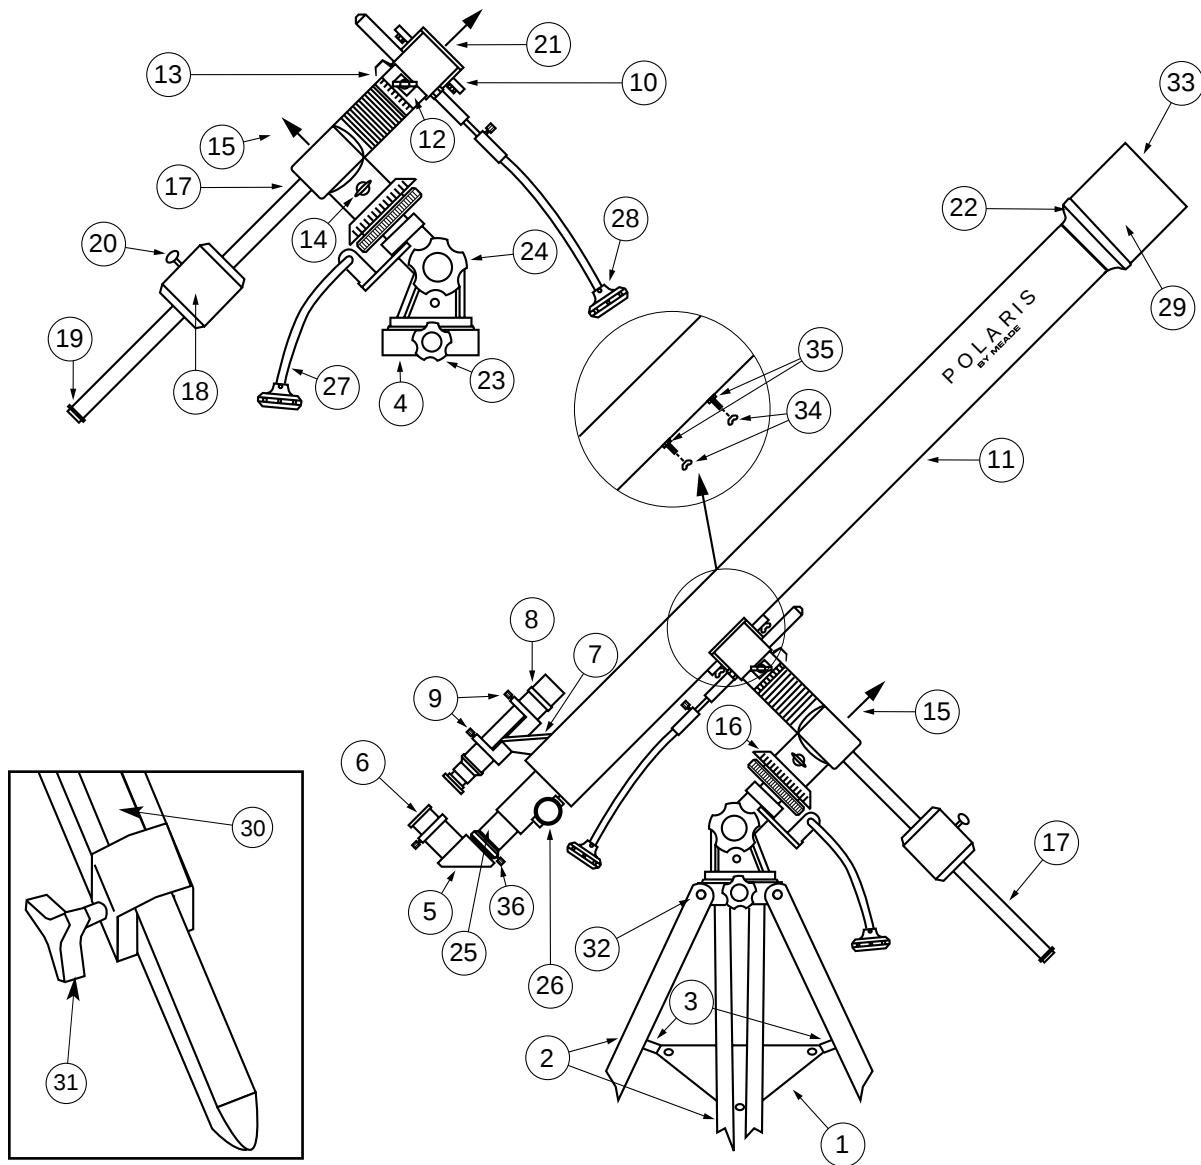

Figure 1: Polaris 60EQ-D 2.4\"
UNPACKING AND ASSEMBLY (Numbers in brackets below refer to Fig. 1)
2. Attach the 3 aluminum tripod legs (2) to the base of the equatorial mount (4) with the 3 hinged leg braces (3) facing inward. Three bolts (32) each about 3" long, with washers and wing nuts, are provided for this purpose in hardware package "A." Stand the telescope mount upright, spreading the tripod legs evenly apart so the accessory tray can be positioned to attach to the 3 leg braces.
3. Attach the accessory tray (1) to the leg brace supports (3) with the 3 short screws and wing nuts provided in hardware package "B." Place the accessory tray on top of one of the leg braces (3) of the tripod so that the mounting screw passes through the hole at one of the corners of the accessory tray (1), and through the hole at the end of the leg brace (3). Then thread-on and tighten the wing nut. Repeat this procedure until all 3 corners are mounted to the 3 leg braces.
4. Extend the sliding inner portion of the adjustable height tripod leg (30) to the desired length for all 3 legs. Lock in place by tightening the leg lock thumbscrew (31) for each leg.
5. Holding the counterweight (18) firmly in one hand, slip the counterweight onto the counterweight shaft (17). Attach the counterweight and counterweight shaft, by supporting the unlocked (20) counterweight firmly in one hand while threading the counterweight shaft into the base of the Declination axis of the telescope's equatorial mount. Once firmly attached, slide the counterweight about 2 inches from the bottom of the counterweight shaft and secure it in place with the locking thumbscrew (20) of the counterweight. Note: if the counterweight ever slips, the secured threaded safety washer/screw (19) will not let the weight slide entirely off the counterweight shaft. **Be certain that this safety washer/screw is always in place.**
6. Attach the flexible cables (27) and (28), as shown. These cables are secured in place with a firm tightening of the thumbscrews located at the attachment ends of each cable.
7. Tilt the polar axis (15) of the telescope to roughly a 45° angle with the horizon, as shown in Fig. 1. This tilt is accomplished by first loosening the lock control at (24); this lock control, called the "Latitude Adjustment Lock" is shown in Fig. 1 on top of page 4. With the polar axis thus tilted, firmly re-tighten the latitude control lock.
8. Remove the wing nuts (34) from the optical tube mounting bolts (35) that are the underside of the main optical tube (11) of the telescope. Then lay the telescope optical tube assembly onto the saddle plate (10) passing the mounting bolts (35) through the holes in the saddle of the mount. Re-attach the wing nuts (34) to the mounting bolts, and tighten to a firm feel. Be sure the focuser portion of the optical tube is on the same side of the saddle as the slow-motion control cable in Declination (28), see Fig. 1.
9. Attach the viewfinder bracket (7) to the telescope using the 2 thumbscrews provided. These thumbscrews are pre-threaded into the telescope at the viewfinder location. The thumbscrews fit through the 2 holes at the base of the viewfinder bracket and thread into the main optical tube.
10. Insert the diagonal mirror (5) into the focuser drawtube (25) and the 25mm eyepiece (6) into the diagonal mirror. Secure each in place with a moderate tightening of the respective thumbscrews.
- e. Note that the object immediately starts to drift out of the field of view. This motion is caused by the Earth's rotation. To "track" the object and keep it in the field of view, turn the R.A. slow motion control cable (27). Objects will appear to move through the field more rapidly at higher powers. Note: the Declination flexible cable control (28) is used only for centering purposes, and not for tracking.
7. Setting Circles: These etched dials (13) and (16), Fig. 1, aid in the location of faint celestial objects, perhaps, not easily found by direct visual observation. To use the setting circles, follow this procedure: